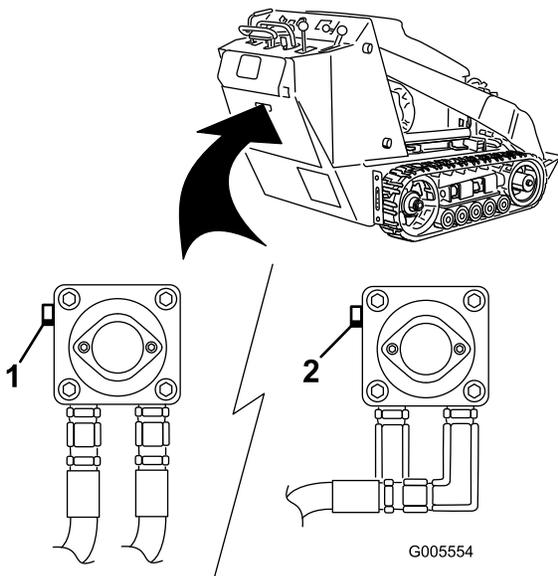

Figure 13
3. Using a wrench, turn the tow valves on the hydraulic pumps twice counter-clockwise (Figure 13).